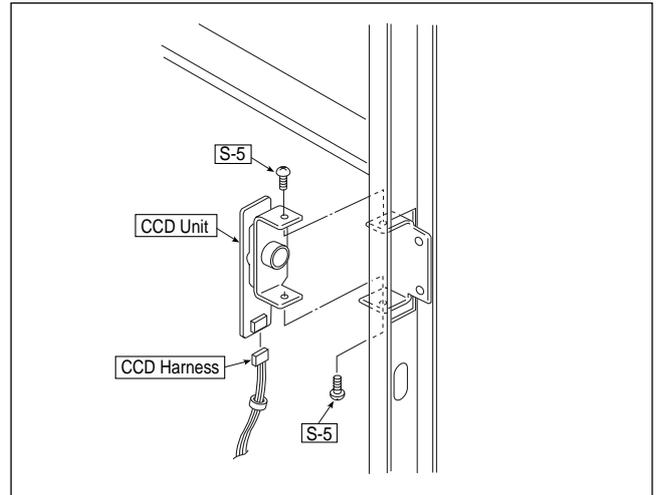

Fig. 5
### 4) Remove the CCD Unit. (See Figure 5.)
1. Remove the "S-5" screws as shown in Figure 5 and then remove the CCD Unit.